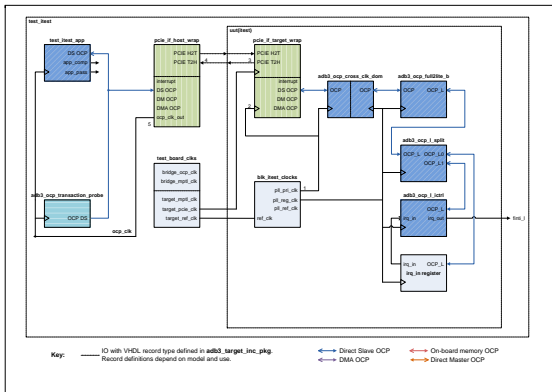

Figure 12 : ITest Design Testbench and Top Level Block Diagram (PCIe)
Figure 12 shows the testbench and main elements of the `itest` FPGA design using PCIe interface IP.
- The testbench OCP clock `ocp_clk_out` path is shown in Figure 12 as the route consisting of points 1, 2, 3, 4 and 5.